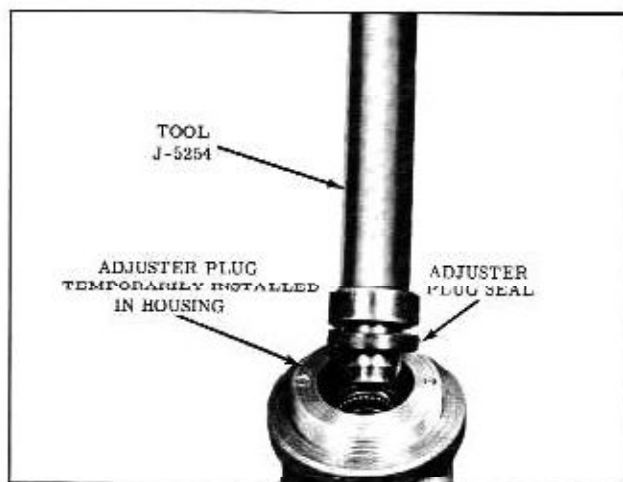

Fig. 4-82 Installing Seal
2. Temporarily install the adjuster plug in the gear housing and place dust seal and a new oil seal on Tool J-5254 (lip of seal away from tool). Lubricate seal with Hydra-Matic oil and drive or press seal into adjuster plug until seated. (Fig. 4-82) Tool J-5254 must be free of burrs that could scratch the seal.